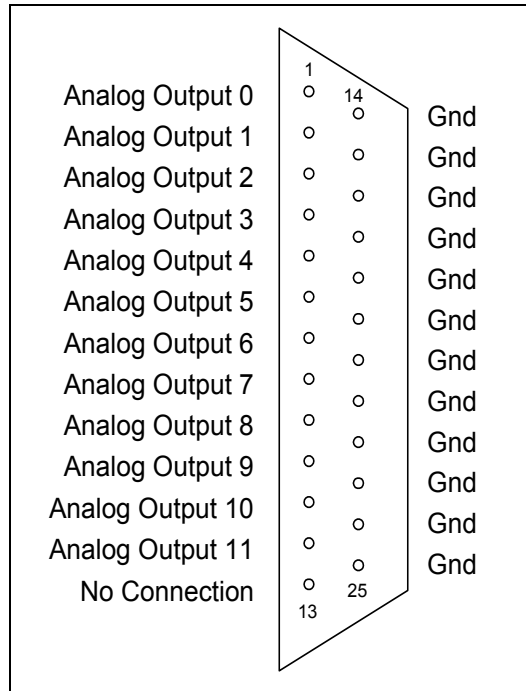

Figure 42. Analog Output Pinouts
- If your voltage range for your test is 0 to 200 volts and you want the output of the **AIO** to be at Full Scale when you reach 200Vrms, then set the Zero for 0mV and set the Full Scale to 200Vrms. This gives you a 25mV per volt changeout of the AIO Connector. See Figure 42.